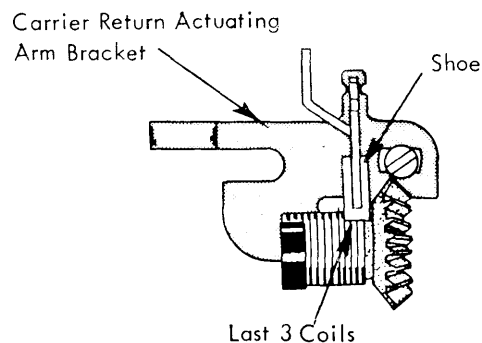

FIGURE 146. Carrier Return Shoe
4. Carrier Return Shoe - Adjust the carrier return actuating arm bracket left or right so that the carrier return shoe overlaps the last 3 coils on the right hand end of the clutch spring. Covering the last 3 coils insures that all the coils of the spring will be used in the clutch operation (Fig. 146).